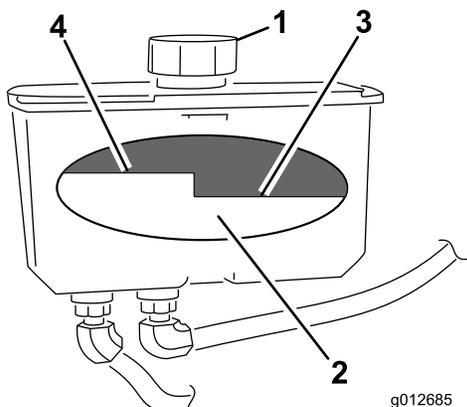

Figure 74
4. Clean area around cap and filler neck of hydraulic tank (Figure 74).
5. Remove cap from filler neck. Look inside to check the fluid level in the reservoir. (Figure 74).
- Note:** The fluid level should be to the top of the hot level of the baffle, when the fluid is warm (Figure 74).